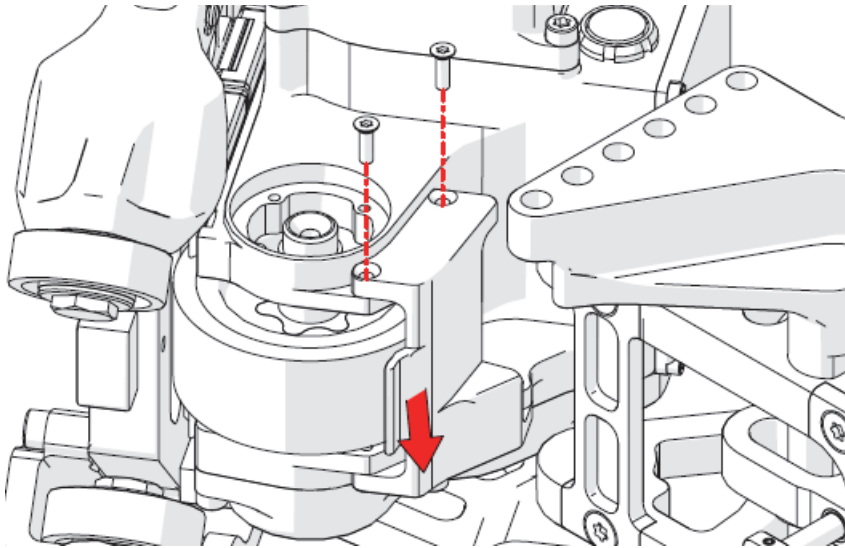

Figure 2-14 Remove the drive wheel guard
16. Using a T10 Torx driver, unscrew the two screws and remove the drive wheel guard (see Figure 2-14 on page 93).